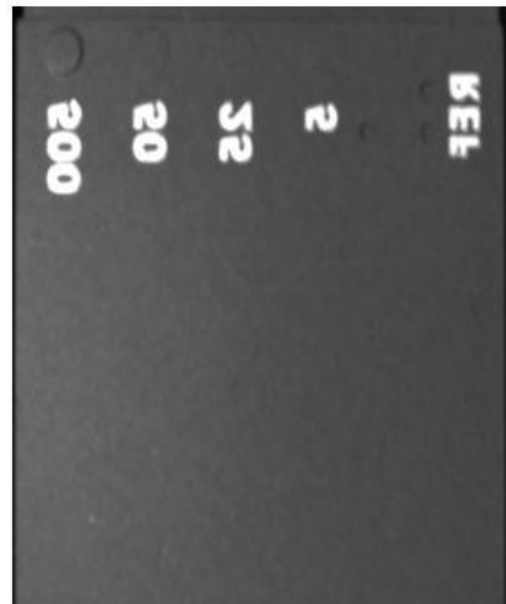

Figure 43 Optical Camera Dial Turning
43. Adjust Optical Camera Focus by turning the dial of optical camera as below Figure 43.